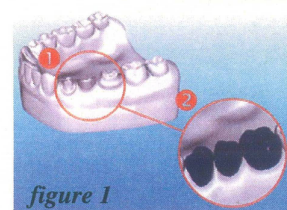

figure 1
1. Wax a model of the temporary bridge or provisional bridge on the model (*figure 1*).